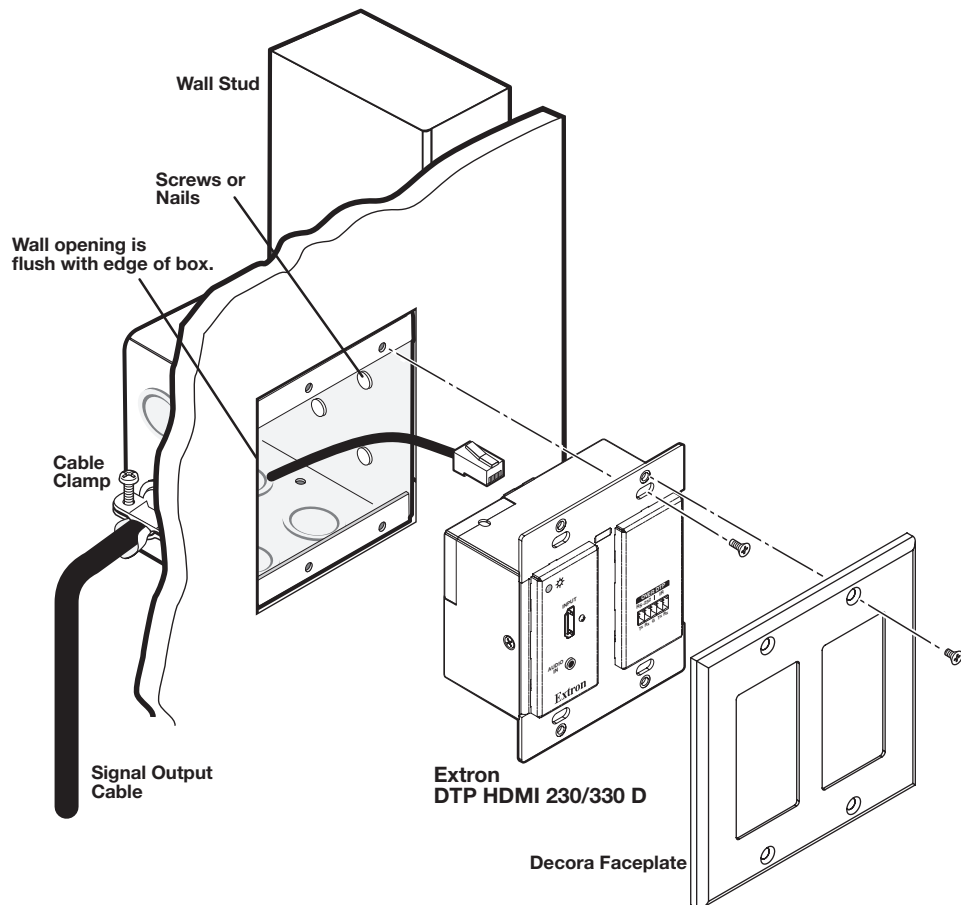

Figure 2. Installing the Wall Box and Mounting the Unit
5. Secure the wall box with nails or screws, leaving the front edge flush with the outer wall or furniture surface (see figure 2).
2. Mount the transmitter or receiver into the wall box or mud ring, and attach the supplied Decora faceplate to the unit (see figure 2 on page 4).